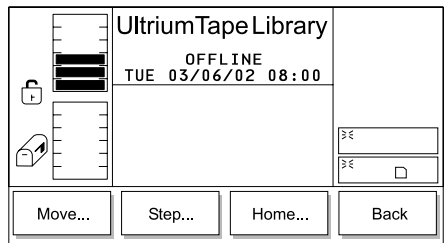

Figure 300. Picker Submenu
- Press the button below the **Picker** softkey. The Picker Submenu displays (see Figure 300).